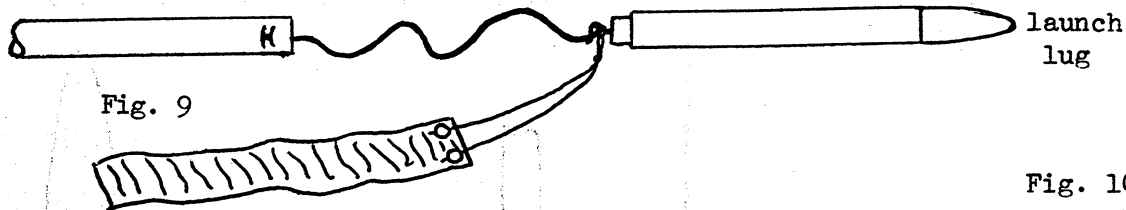

Fig. 9
- Attach the loose end of the shock cord to the screw eye. Fig. 9. For recovery device, attach swivel hook to center of nylon line with a knot. Attach two ends of line to streamer with tape discs provided.